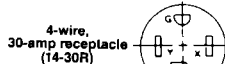

Figure 2
- For mobile home or other four-wire installations, the appliance wiring must be revised. The appliance cabinet must not be connected to the neutral terminal, but must be connected to the grounding wire (green) of the power supply cord. When a four-wire receptacle of NEMA Type 14-30R is used (see Figure 2), a matching 120/240-volt minimum, 30-ampere, U.L. listed dryer power supply cord kit (pigtail) must be used. This cord contains four No. 10 copper conductors with ring terminals, or spade terminals with upturned ends on dryer end, terminating in a NEMA Type 14-30P plug on supply end. The fourth (grounding) conductor must be identified by a green or green/yellow cover and the neutral conductor by a white cover. Cord should be Type SRD or SRDT, with a 3/4", U.L.-listed strain relief, and be at least four feet long. The power supply cord and strain relief are not provided with the dryer.